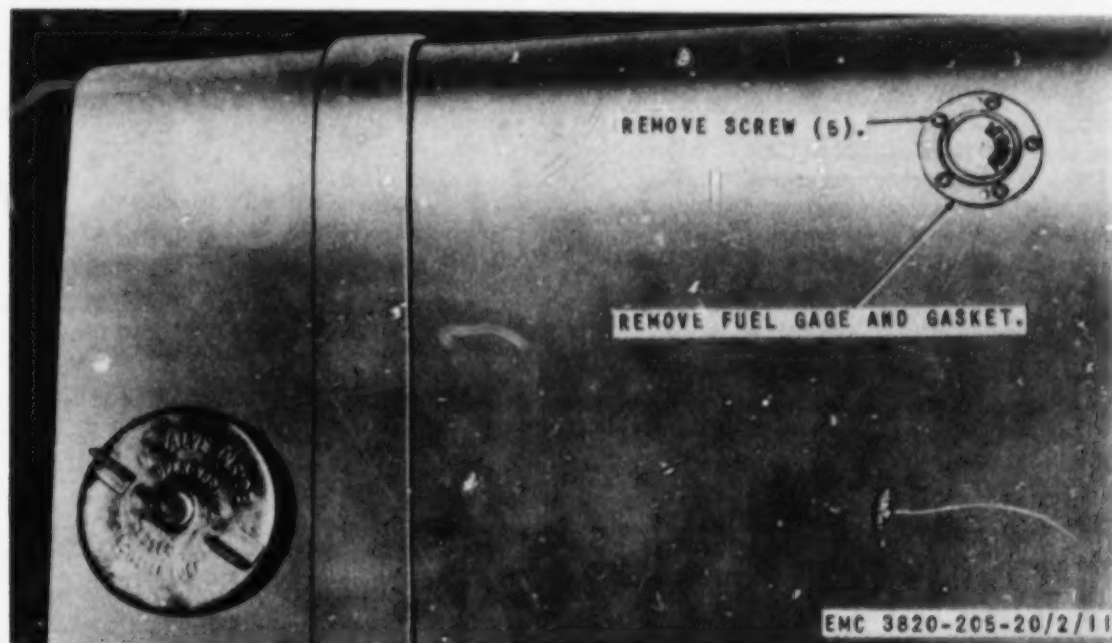

Figure 12. Fuel gage, removal and installation.
a. *Removal.* Remove the fuel gage from the fuel tank as instructed on figure 12.
c. *Installation.* Install the fuel gage on the fuel tank in reverse of the instructions on figure 12.